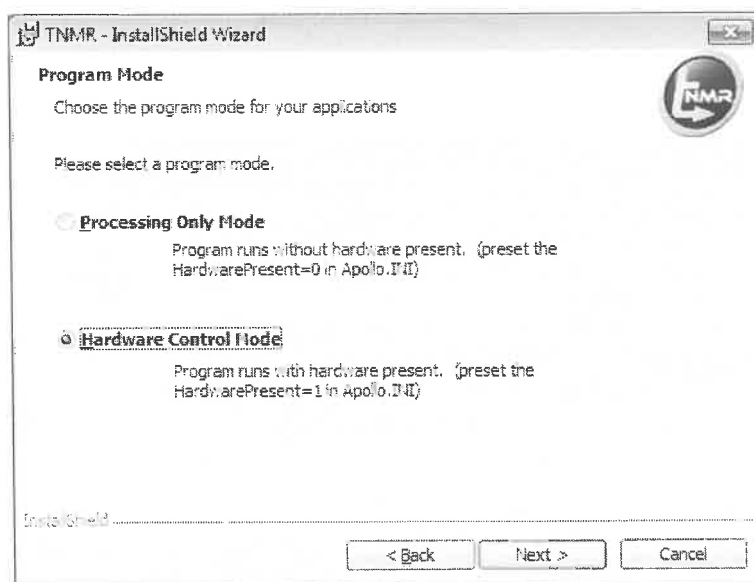

Figure 7
7. At the Program Mode screen, select Hardware Control Mode if the software will be used to control Tecmag hardware. If the software is being installed for data processing only, select Processing Only Mode. Click Next (See Figure 7)